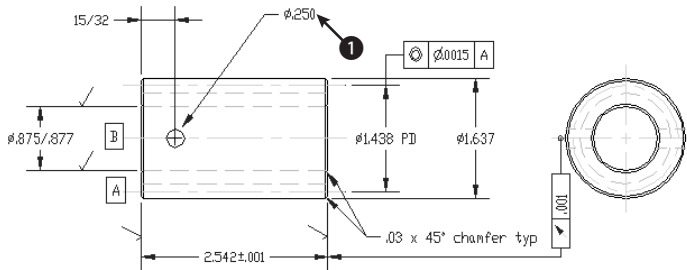

Figure 15-42: A mechanical drawing using geometric tolerances
2. Save the file as `ab15-06.dwg` in your AutoCAD Bible folder. This drawing of a gear operator is shown in Figure 15-42. The Dim layer is current. If the Dimension toolbar is not visible, right-click any toolbar and choose Dimension.
7. At the Enter tolerance location: prompt, pick **1** in Figure 15-42. AutoCAD places the geometric tolerance.